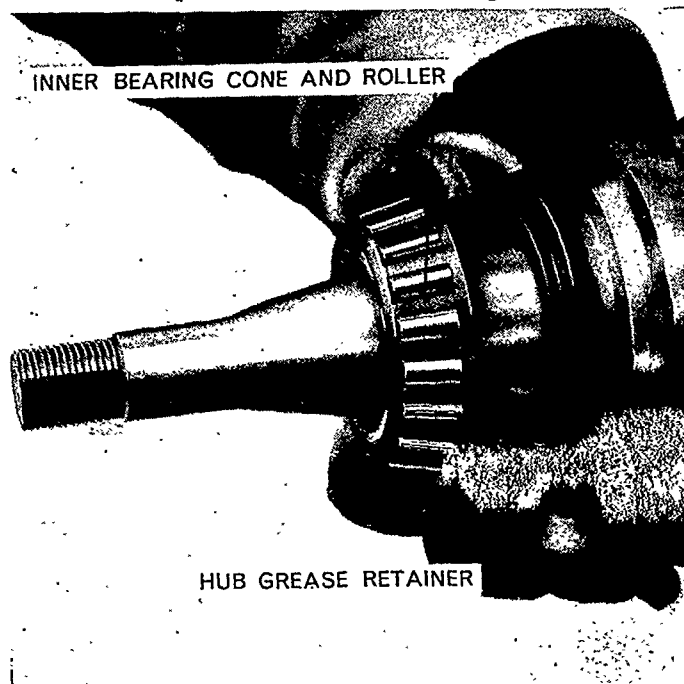

Figure 4
5. Install the wheel hub grease retainer on the wheel spindle. Install as shown in Figure 4.